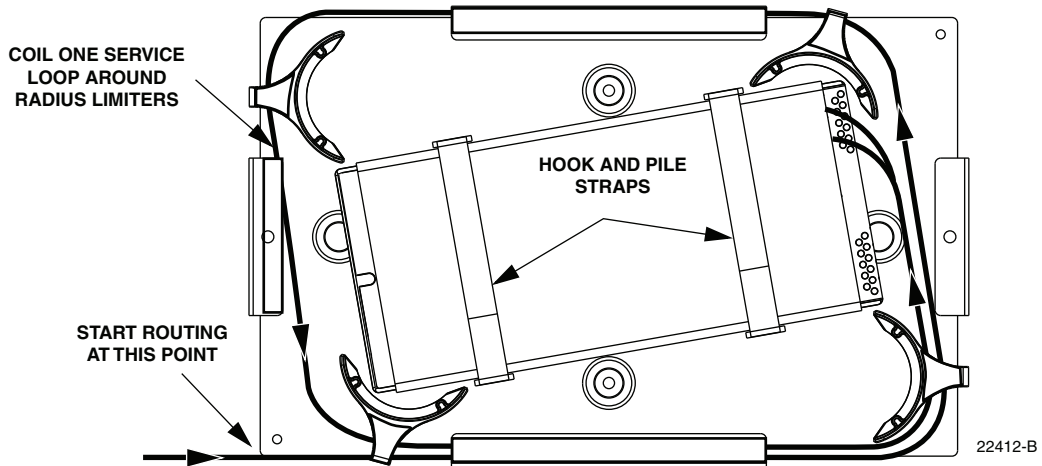

Figure 24. Feeder Splice Tray Replacement
12. To replace the splice tray, route the attached tubes around the splice tray holder radius limiters (there should be two service loops) as shown in Figure 24. Avoid twisting or kinking the fiber tubes. Maintain a 1.5-inch (3.81 cm) minimum bend radius for all non reduced bend radius fiber.
12. To replace the splice tray, route the attached subunits (there should be two service loops) around the splice tray holder radius limiters (see Figure 24). Avoid twisting or kinking the fiber subunit tubes. Maintain a 1.5-inch (3.81 cm) minimum bend radius for all non reduced bend radius fiber.